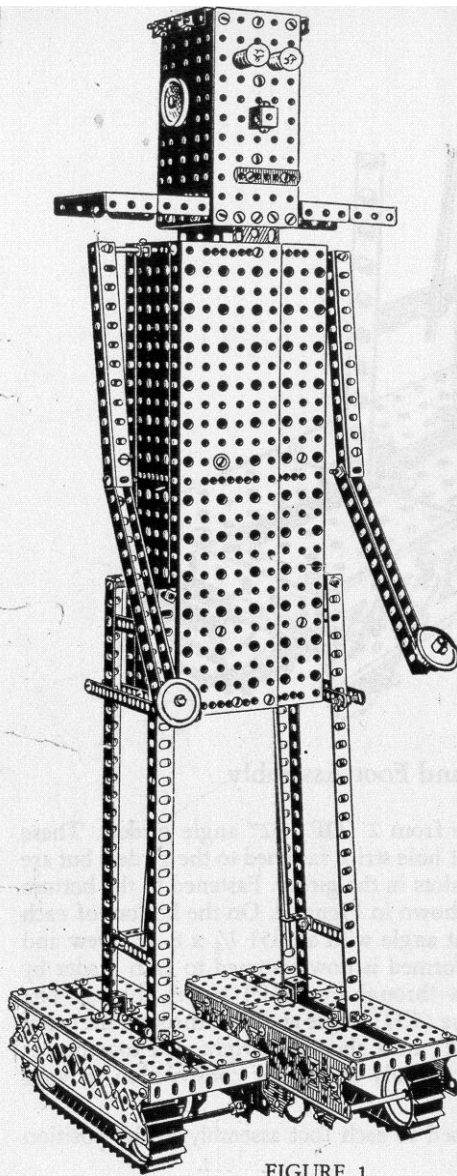

FIGURE 1
Figure 1 shows the front view of the completed model. Figure 2 shows the rear view of the model. Study these, as well as all the other views very carefully.
The frame for the foot is built with an (MO) 3" angle girder on each end with an (MO) overlapping three holes of a (BE) 6" angle girder on each side. Fastened to the side pieces are two overlapped (EY) 6" channel girders. Fastened on top of the ends and top of the sides are 4 (MF) 1" x 5" base plates. Attached to the inside of the channel girders (EY) are 5 (MV) flat car trucks. Four of these are fastened to each end of the foot, in the middle row of holes of the (EY) girder. The fifth flat car truck is fastened at the fourth and fifth holes in the lower row of holes of the inside (EY) girder. The axles used in the foot are (AT) 4" axles. On the axle in back of the foot is attached a (CJ) 36 tooth gear and an (NX) tread pulley. On the front axle is attached an (NX) tread pulley. Note in Fig. 1, there is a right and a left foot. The position of the tread pulley on the axle determines this. To keep the axles from shifting, P37 collars are fastened to the axles inside the (MV) flat car trucks. A flanged wheel (2) is fastened to the inside of middle car truck on side girder with an S57 screw, P37 collar and a P15 coupling. The foot is prevented from moving backwards by use of a ratchet. This is made by fastening a pawl (0) to the (EY) girder at location shown in Fig. 3. As the foot is moved forward, the pawl is released. The pawl locks *in* the teeth of the gear when the foot tends to move backward.
The motor assembly is fastened to the inside front of model in location shown in Figure 5. The 12 inch axle rods are fastened in P37 collars on (BT) discs on shaft (D) of motor and pass through holes in (CH) angles. Refer back to Figures 1 and 2 which show location of top of leg fastening to body. The 12 -inch axle then passes through (O) pawl on (H) strip on leg and foot assembly. This shaft must be
The shoulders are made of 2 (MC) 1" x 2 1/2" base plates fastened together with (G) strips. The shoulders are fastened to the head with (CH) angles as shown in Figure 7. Head is mounted to body in position as shown in Figures 1 and 2.